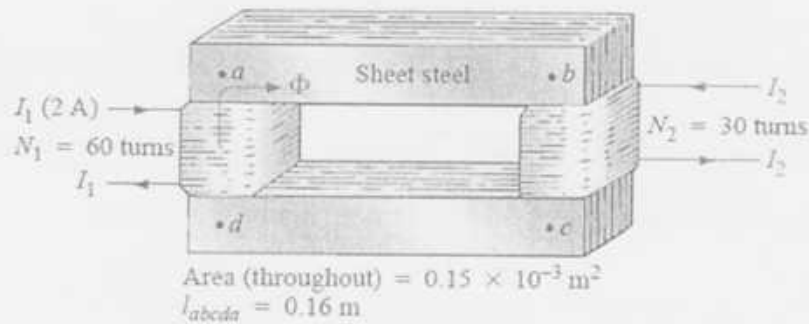

Figure 2
- b. Determine the secondary current I_2 shown in figure 2 if the resultant clockwise flux in the core is $1.5 \times 10^{-5} \text{ Wb}$. [10]